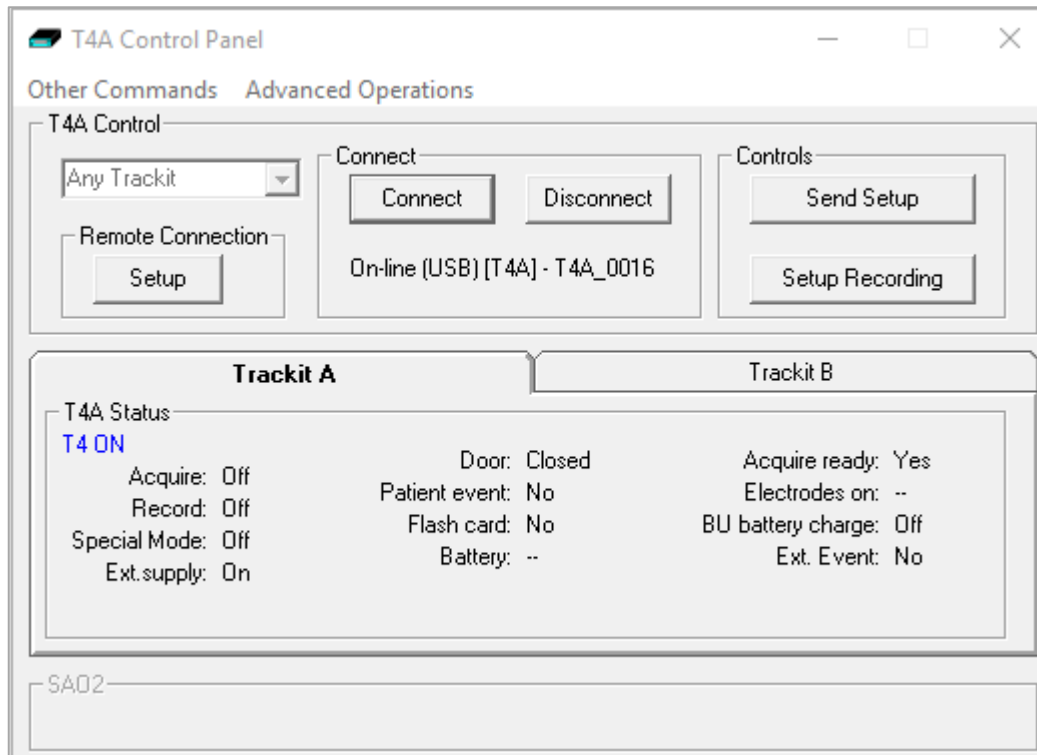
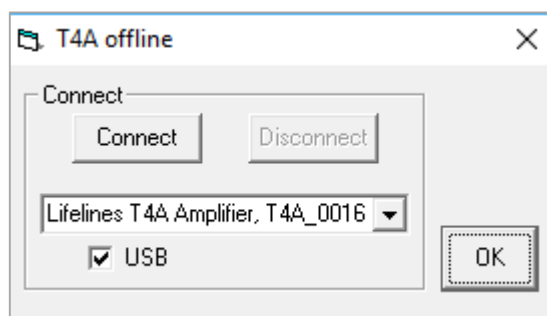

Figure 16: Trackit Control Panel
Figure 17: Connect Dialog Box
1. Open the Trackit Connect dialog box (Figure 17) by clicking on the Connect icon in the Home toolbar (Figure 13) or the Connect button in the Control Panel (Figure 16).